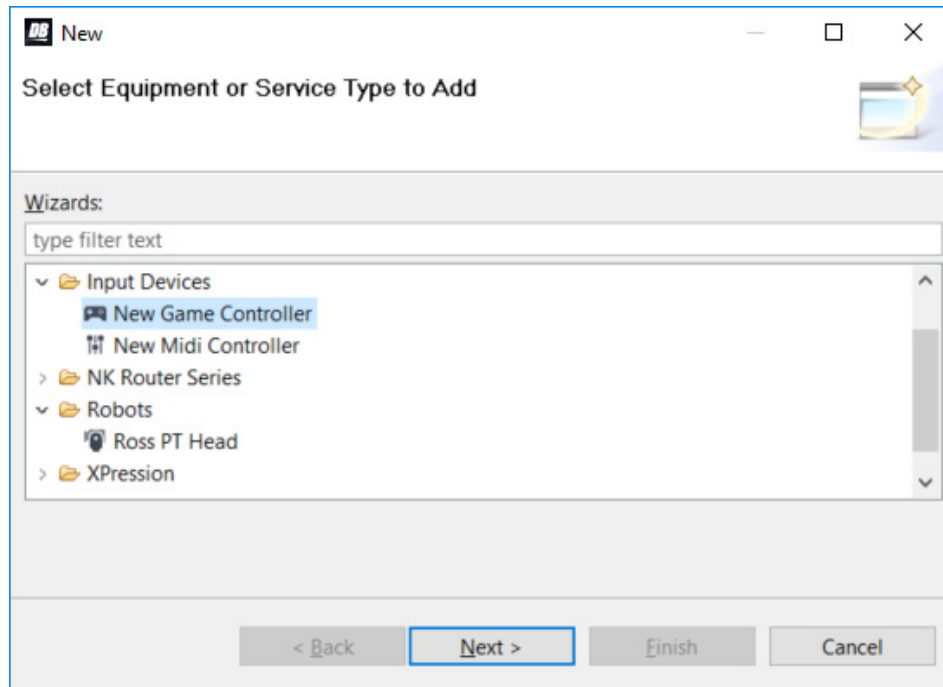

Figure 31 - Adding a USB controller
4. In DashBoard, on the **File** menu, select **New**, and then select **Other**. The **New** dialog box appears (Figure 31).